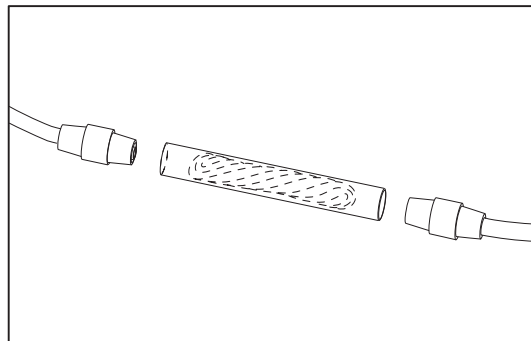

Figure 29. Removing End Plugs from Saturator Filter Tube.
6.9 Replacing Saturator Filter Packing Part #11-0121 (Refer to Figs 29 thru 32)
Remove the filter tube nipple and bushing (See Figure 29) from each end of the tube. Use a pencil or similar object to remove packing when it becomes dirty or clogged.